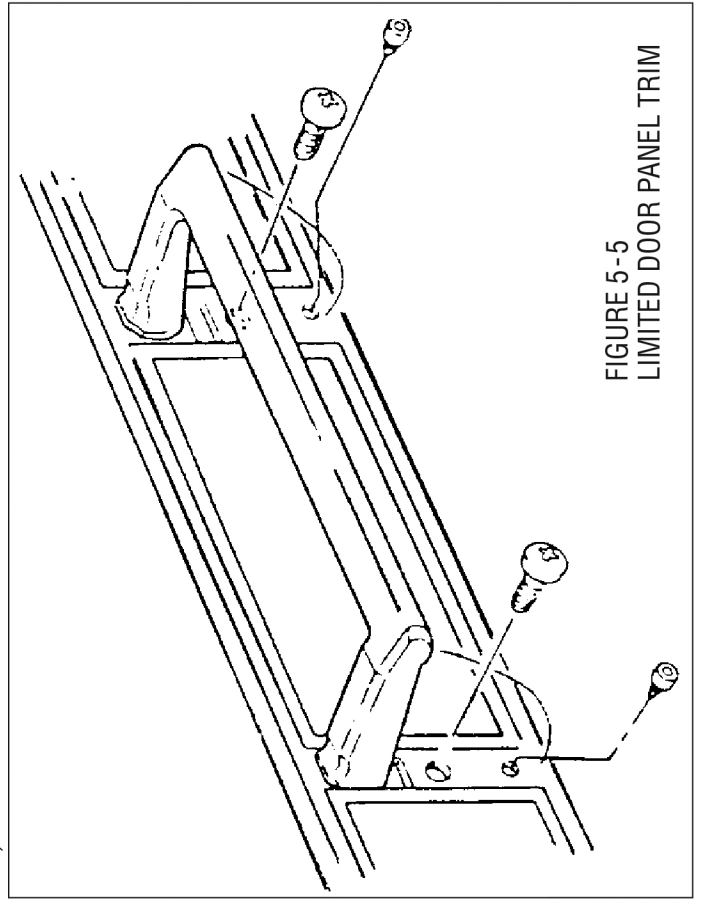

FIGURE 5-5
1. With the window all the way down; unscrew the lock knob and remove the pull strap covers and two screws from the arm rest (as shown in Figures 5-5, 5-6 and 5-8).